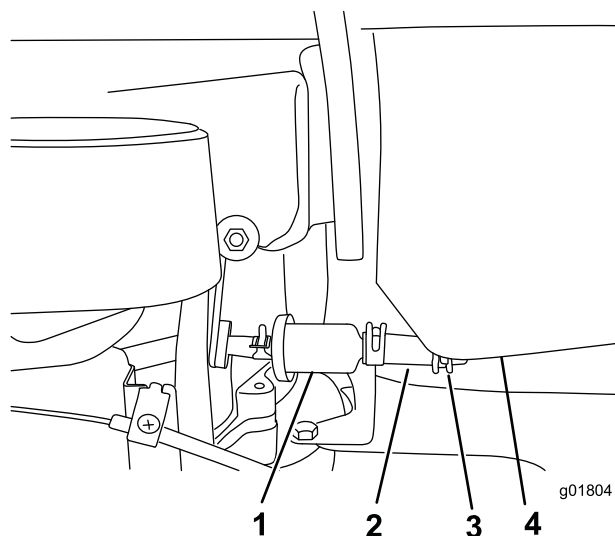

Figure 6
1. Fuel tank plastic clip (2)
3. Insert the hose clamp onto the fuel line from the fuel filter (Figure 6).
4. Slide the end of the fuel line onto the fuel tank fitting (Figure 6).
5. Secure the fuel line to the fuel tank with the hose clamp (Figure 6).